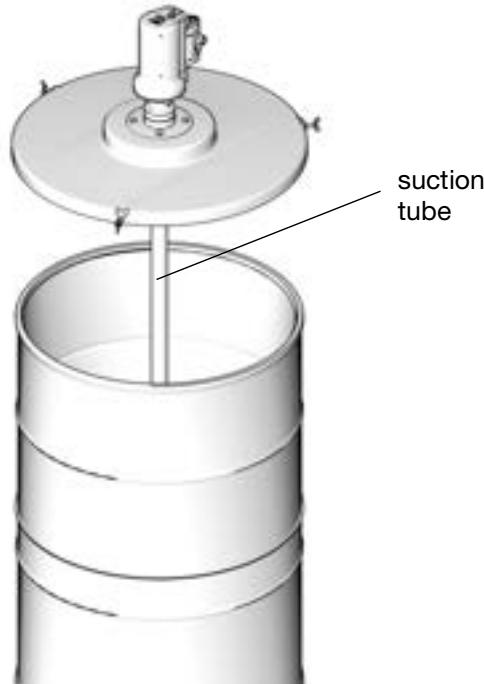

FIG. 28
8. Insert the pump suction tube through center of rubber grommet (15b) in the follow plate (15) (FIG. 28).